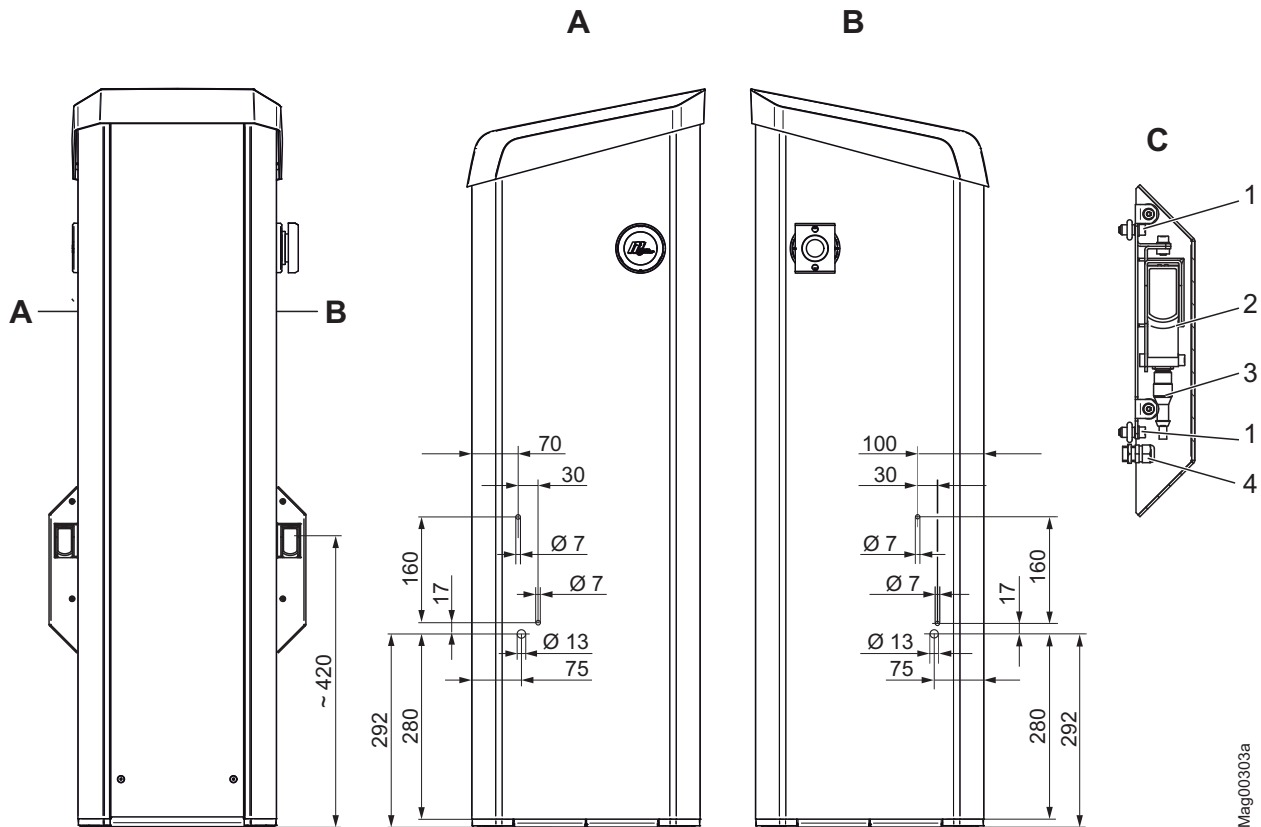

Fig. 20: Assemble of the transmitter's light barrier housing on the barrier housing
1. Drill holes for the light barrier housing according to Fig. 20. Mount the cable screws at the housing with locknuts.